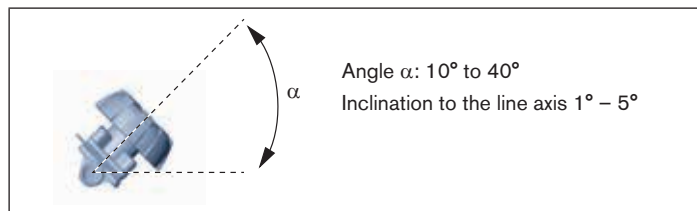
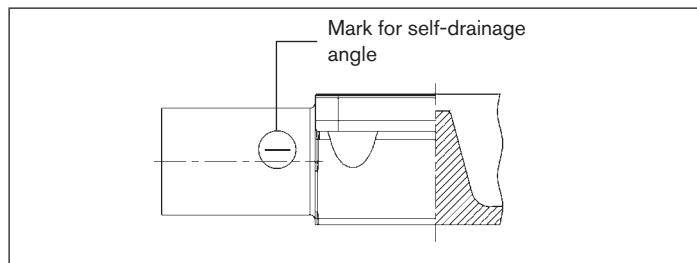

Fig. 6: Installation position for self-drainage of the body
Fig. 7: Mark for the correct installation position
- Install body inclined by angle $\alpha = 10^\circ$ to 40° to the horizontal (see "Fig. 6"). Forged and cast body feature a mark which must face upwards (12 o'clock position, see "Fig. 7").